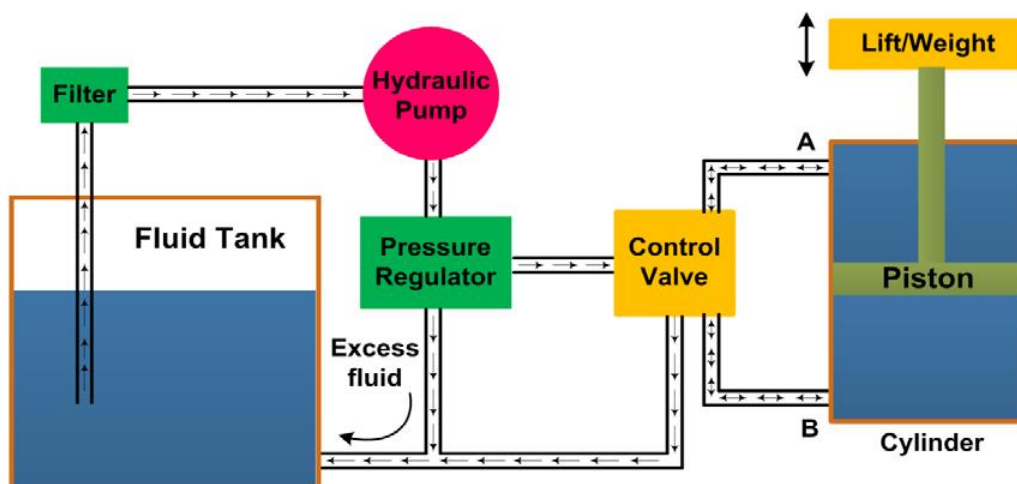

Figure 2: Schematic diagram of hydraulic system
The hydraulic systems consists a number of parts for its proper functioning. These include storage tank, filter, hydraulic pump, pressure regulator, control valve, hydraulic cylinder, piston and leak proof fluid flow pipelines. The schematic of a simple hydraulic system is shown in figure2. It consists of:
6. Some accessories such as flow control system, travel limit control, electric motor starter and overload protection may also be used in the hydraulic systems which are not shown in figure 2.